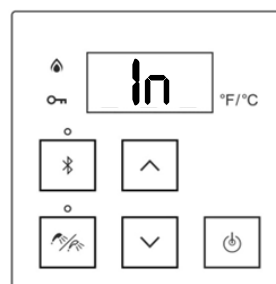

Figure 52:
4. The controller displays “In” (indoor) (Figure 52).